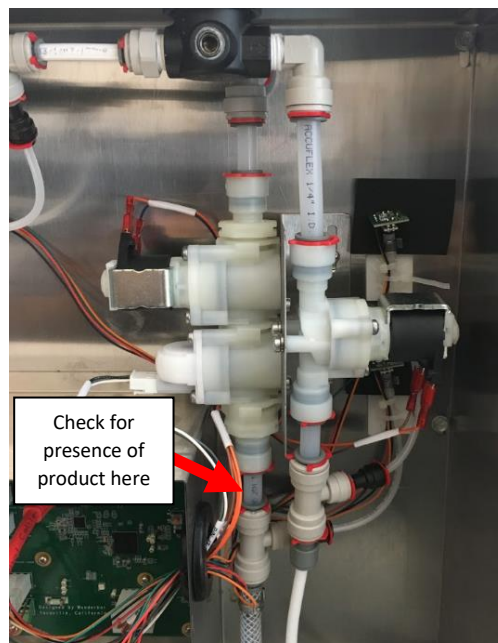

Figure 20: *Flowmeter Solenoid Assembly.*
7. Remove the Rear Enclosure Cover and verify that the solenoid is not stuck close. If the solenoid is stuck close there will be no product past the Solenoid. Visually inspect the tube immediately after the solenoid for presence of product (black coffee). **See Figure 20.** If no coffee is present the tube will appear clear (blue or white depending on which tube was used). If there is a solenoid failure, verify if it is mechanical (more likely) or electrical: